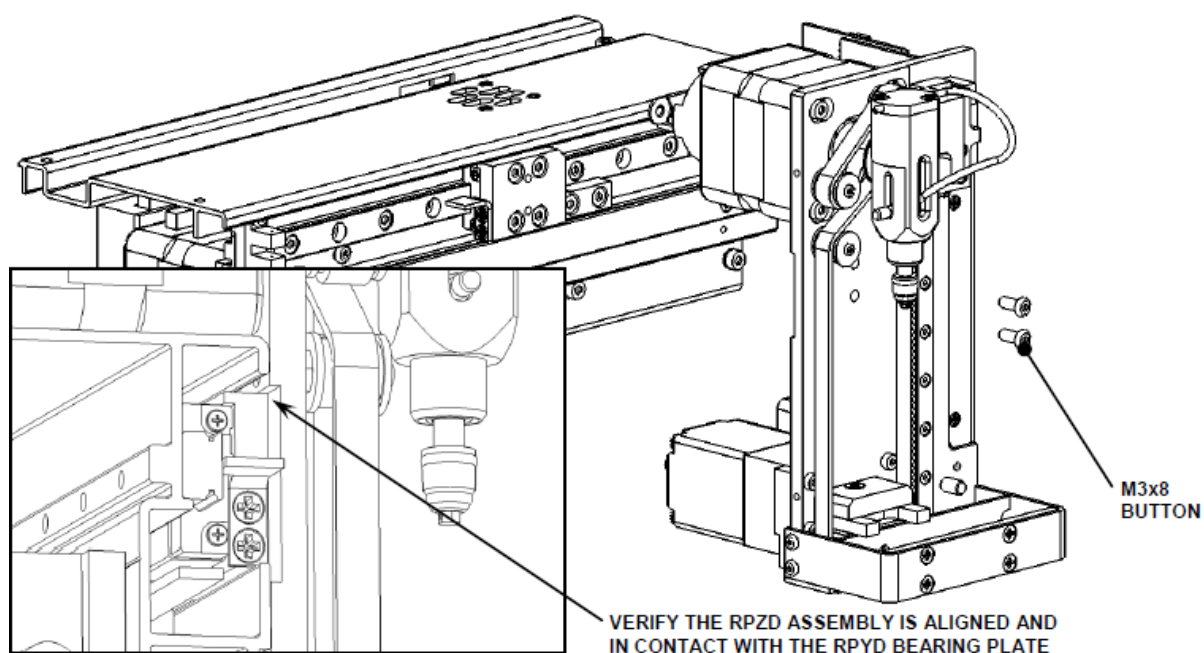

Figure O-5: Removing the Reagent Pipettor Z Drive Assembly
7. Remove the Reagent Pipettor Z Drive Assembly from the Reagent Pipettor Y Drive Bearing Plate by unscrewing the two M3x8 Cap Head Screws and washers (Figure O-5). When replacing the assembly, use Loctite 222 on the screws and ensure that the Reagent Pipettor Z Drive Assembly sits horizontally on the Reagent Pipettor Y Drive Bearing Plate.